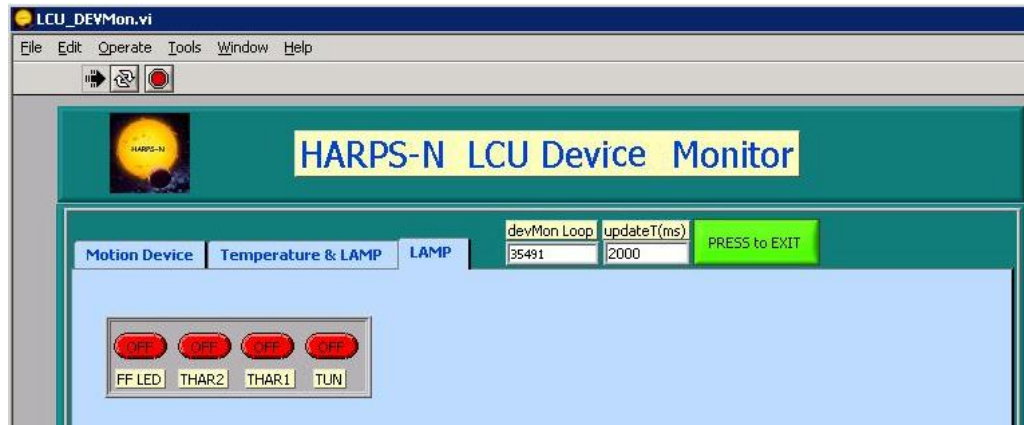

Figure 3 - LCU Device Monitor
4. On the **LCU Device Monitor** verify the lamps status (Figure 3)